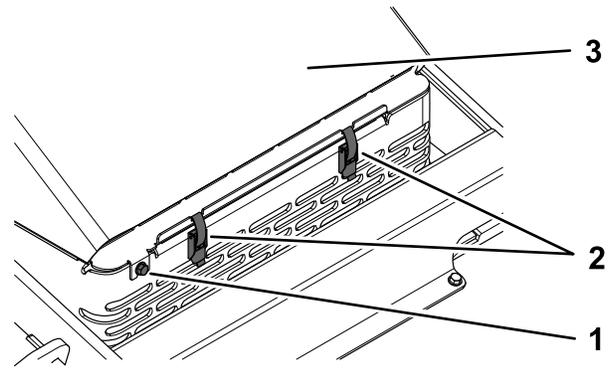

Figure 40
- 3. Loosen the hood-locking screw (Figure 40).
- 4. Hold the hood down and release the 2 latches (Figure 40).
- 5. Lift open the hood (Figure 40).
2. Tighten the hood-locking screw (Figure 40).